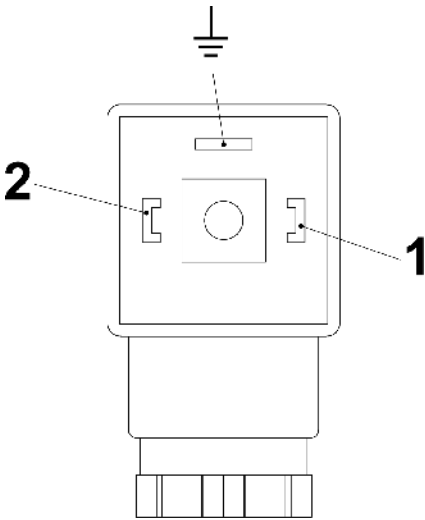
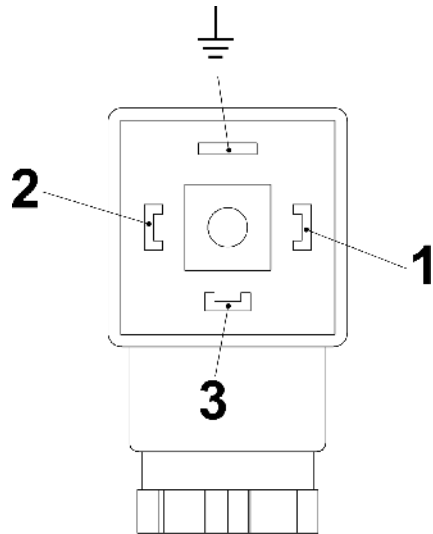

Fig. 24: Pin assignment, plug socket, Normally Open Contact (Form 30x70)
Fig. 25: Pin assignment, plug socket, Change-over contact (Form 30x70)
6. ➤ Make the connections as shown in the connecting diagram (Fig. 24 und Fig. 25)